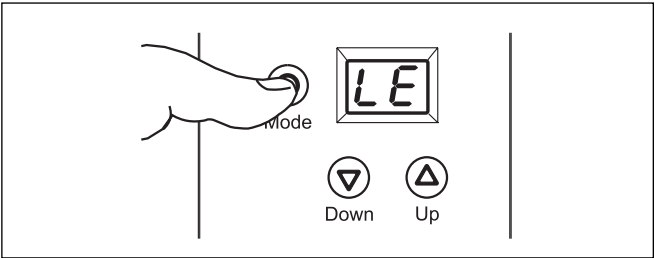

Figure 4
2. Press the  button once and LE will be displayed (Figure 4).